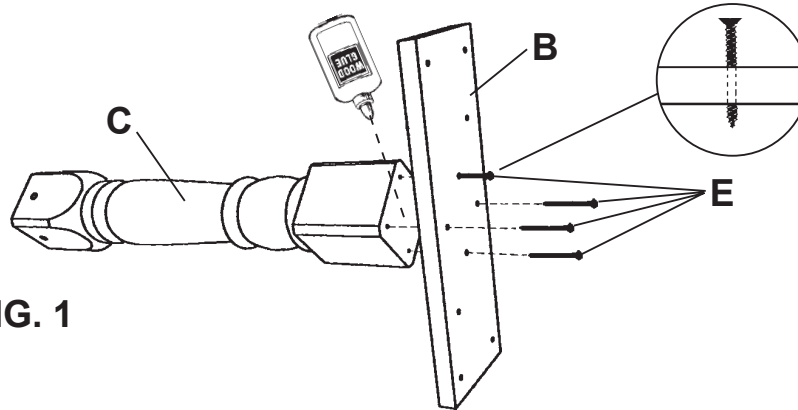

FIG. 1
- 1) Spread a thin film of glue on top of the Pedestal (C) before attaching the Top Support (B). To screw the Top Support to the Pedestal, start all four #10 x 2½" Flat Head Screws (E) into the Pedestal as shown in FIGURE 1. Rubbing a little soap on the threads will help the screws go in more easily. Tighten the screws firmly. Over-tightening could strip the wood. If you do strip the wood in the Pedestal, spread some glue on a small wedge of wood or some wooden match sticks and pound into the stripped hole. Allow this to dry several hours, then tighten the screws solidly. See FIGURE 1.